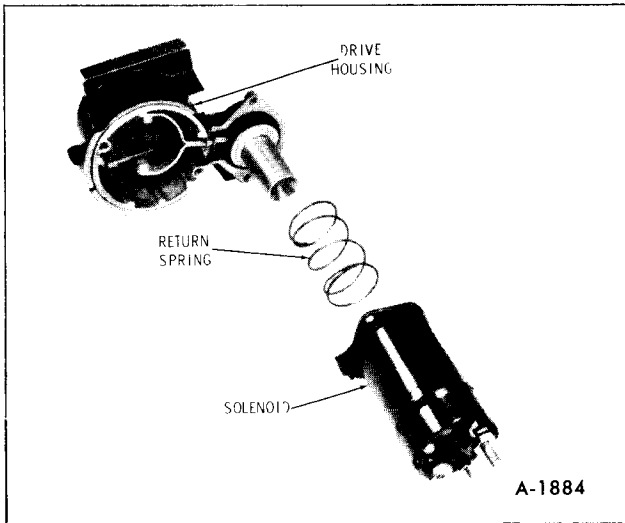

Figure 45—Solenoid Removal
- a. Remove solenoid to drive gear housing attaching screws, then remove solenoid assembly. (figure 45)
c. Install solenoid assembly to drive gear housing. (figure 45)